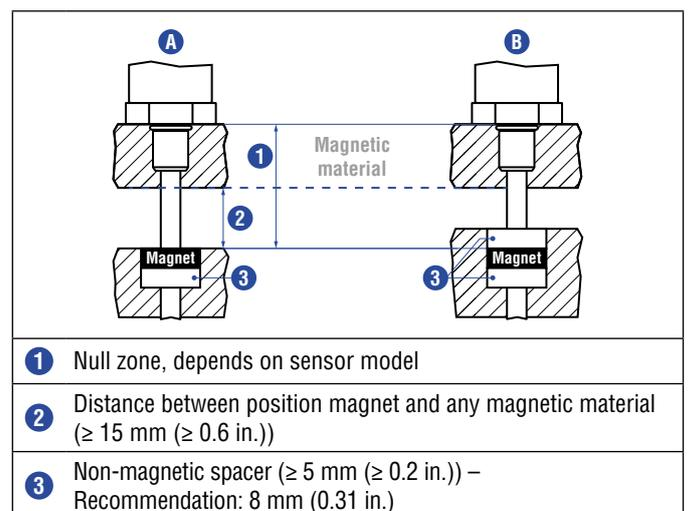

Fig. 67: Installation with magnetic material
- Minimum distance between position magnet and any magnetic material has to be 15 mm (0.6 in.) (Fig. 67)
- If no other option exists and magnetic material is used, observe the specified dimensions (Fig. 67)
When using magnetic material the dimensions of Fig. 67 must be observed.